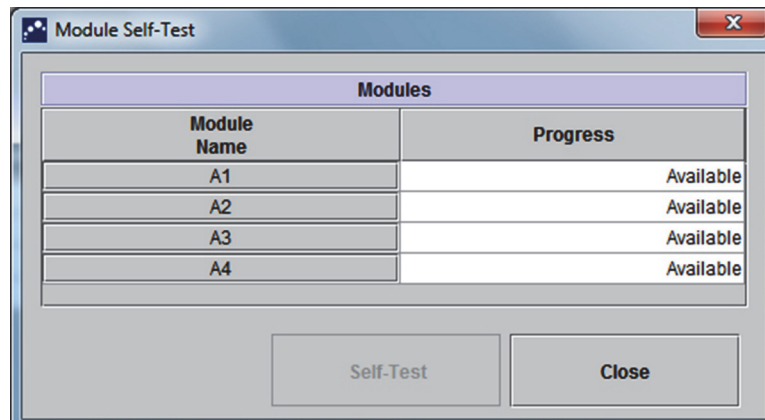

Figure 9-13. Module Self-Test Dialog Box
- Click on **Maintenance** on the menu bar and select **Perform Self-Test**. The Module Self-Test dialog box appears. See Figure 9-13.